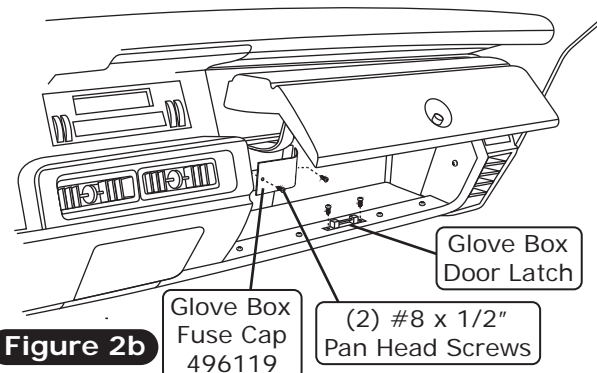

Figure 2b
8. Install glove box fuse cap in glove box using (2) #8 x 1/2" pan head screws (See Figure 2b, below).
9. Reinstall glove box latch using OEM screws (See Figure 2b, below).